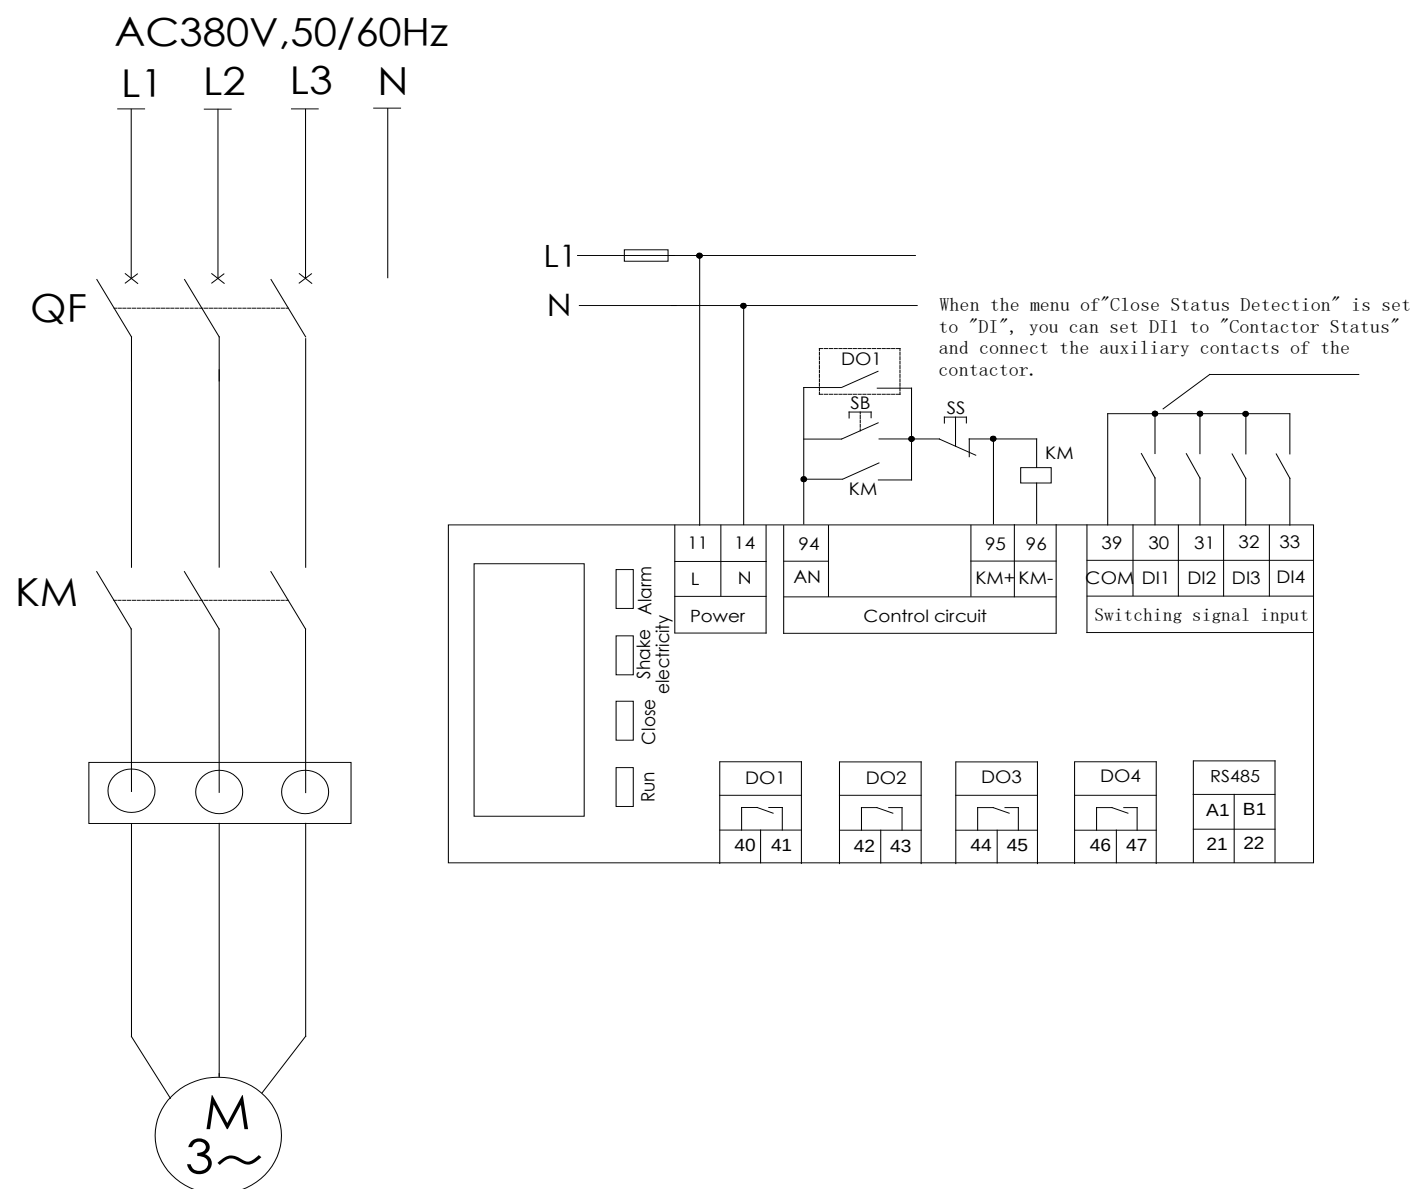

Figure 4 Wiring diagram of Contactor hold + restart
8.2 Figure 4 shows the typical wiring of contactor hold + restart: